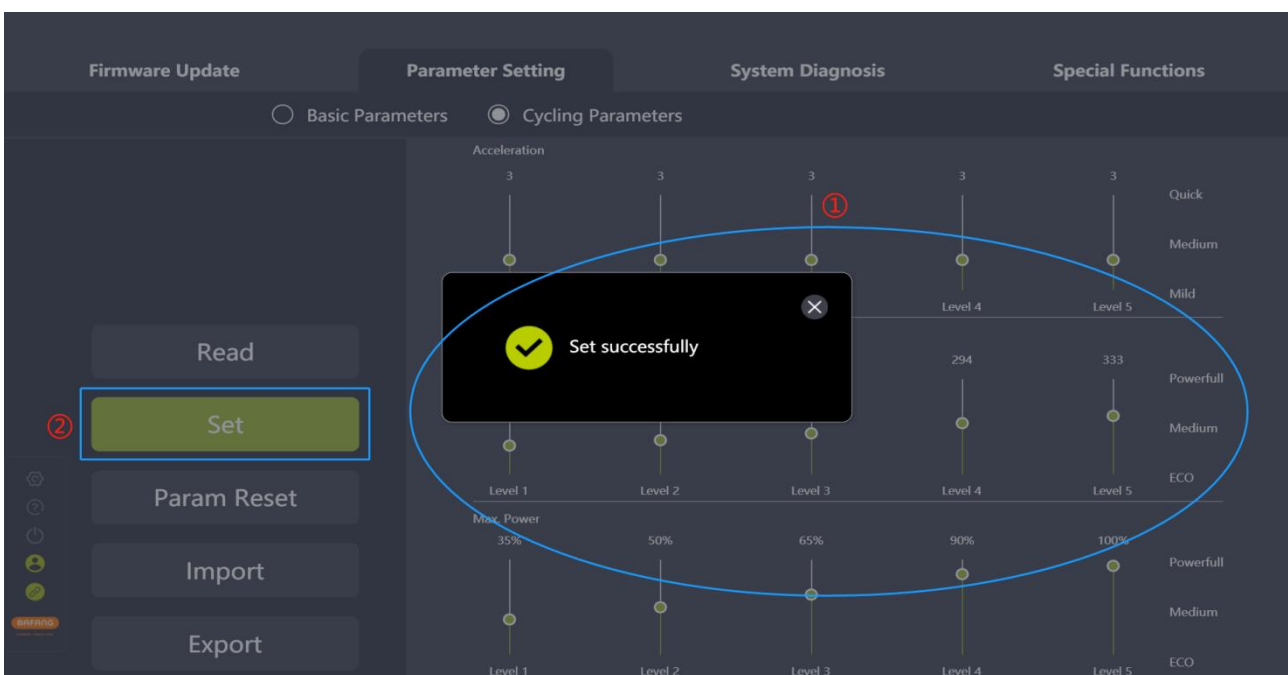

Fig. 5-13 Set parameter
- (4) Parameters can be set after login account verification is approved (e.g. Fig. 5-13).